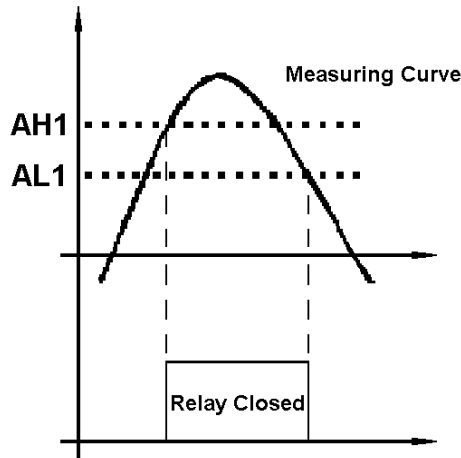

Figure 4
- b) Set AH1 > AL1: Normally used for upper limit alarm trigger. See Figure 4.